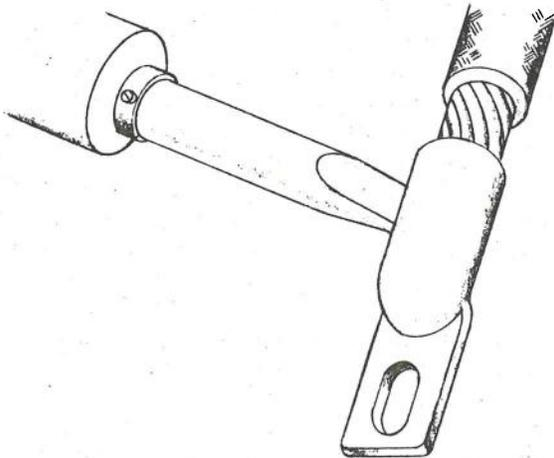

Figure 5-7. Soldering Tubular Terminal
(1) Heat the terminal and fill the tube or well with solder.
(2) Hold wire at edge of hole and reheat terminal as shown in Figure 5-7.